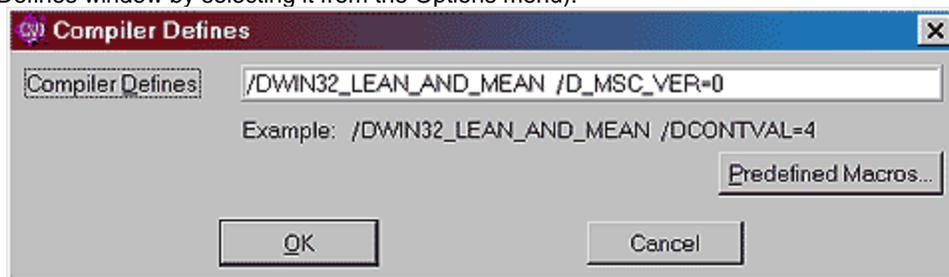

Figure 2: Compiler Defines Window
- DriverLINX is Visual C/C++ compatible, so it uses the C identifier "_MSC_VER" in its header file for preprocessor conditional compilation. This C identifier is embedded in Visual C/C++. However, it is not defined in CVI. You need to define it in CVI by adding "/D_MSC_VER=0" in the Compiler Defines window, as shown in Figure 2. (You can display the Compiler Defines window by selecting it from the Options menu).
- NOTE: The identifier "/DWIN32_MEAN_AND_LEAN," shown in Figure 2, is the default CVI macro that reduces the time and memory taken when compiling Windows® include files.